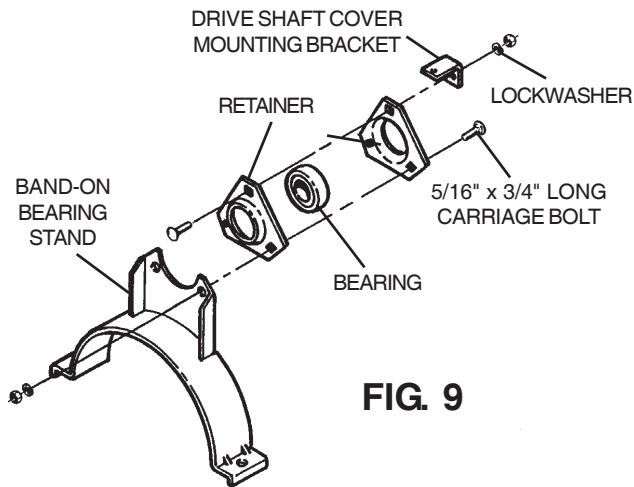

FIG. 9
Step 1. Bolt bearings to band-on bearing stands. (On 51' models, bolt bearings to the welded bearing stand on the lower tube section.) Attach each bearing using two retainers and one drive shaft cover mounting bracket. (See Fig. 9)